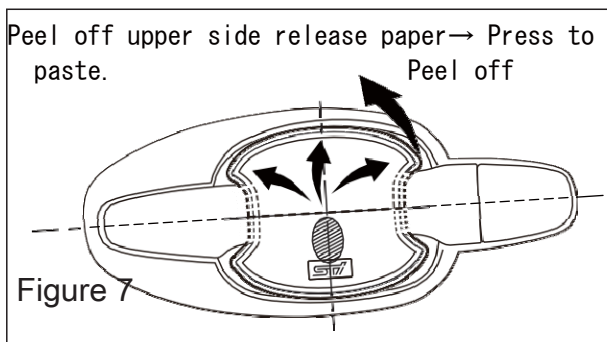

Figure 7
- 1) When the final position is decided, peel off the upper side release paper. The release paper is divided into upper and lower parts. Hold by pressing a little below the center when peeling the upper side. (Figure 7, slanted line part)
Be careful not to move out of position when peeling. (Figure 7)